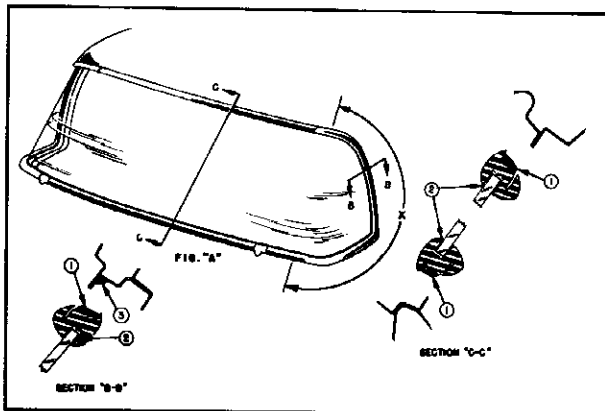

Fig. 3-17 Windshield Glass Sealing
4. Apply a bead of medium bodied sealer completely around base of rubber channel as indicated at "1" in Figure 3-17. In addition, apply a ribbon of sealer along pinchweld flange as indicated at "3", Figure 3-17. This seal should be applied at each side of windshield opening as indicated by distance "X".